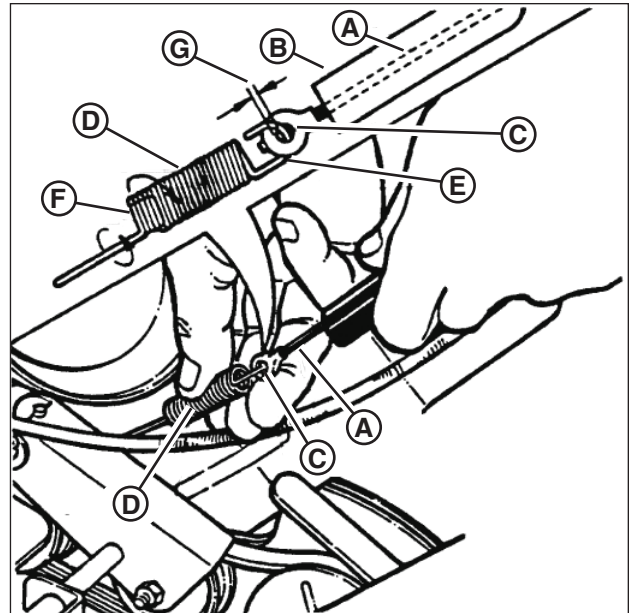

Figure 22: Wheel drive control adjustment
- The wheel drive control is properly adjusted when there is 1/16" to 1/8" clearance (**G, Figure 22**) between the inside of the spring hook (**E**) and the inside of the clutch cable eye (**C**) with the wheel drive control released.